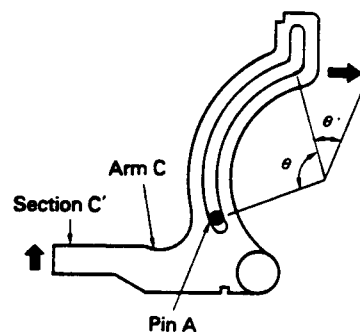

Fig. 13
5. As shown in Fig. 13, arm "C" (caulked to the chassis swivel) is fixed to pin "A" and when the degree of rotation is  $\theta$  arm "C" is stationary, and when it is  $\theta'$  arm "C" turns clockwise.